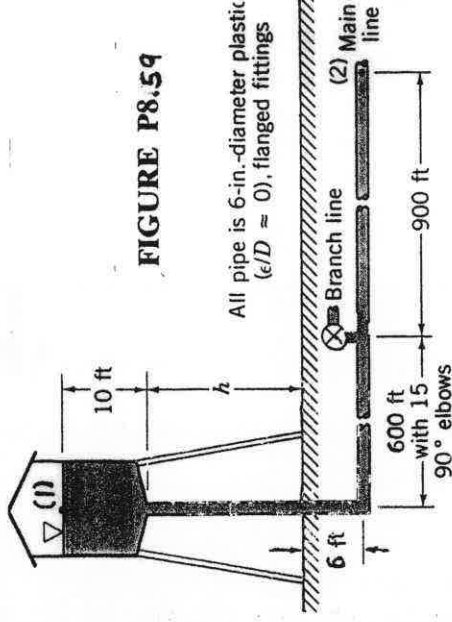

FIGURE P8.59
8.59 The pressure at section (2) shown in Fig. P8.59 is not to fall below 60 psi when the flowrate from the tank varies from 0 to 1.0 cfs and the branch line is shut off. Determine the minimum height, h , of the water tank under the assumption that (a) minor losses are negligible, (b) minor losses are not negligible.